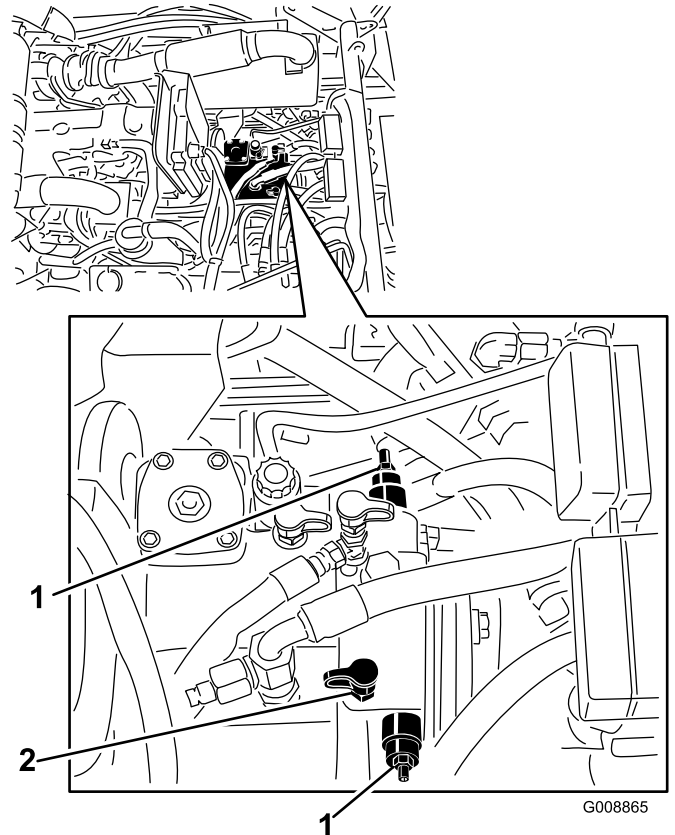
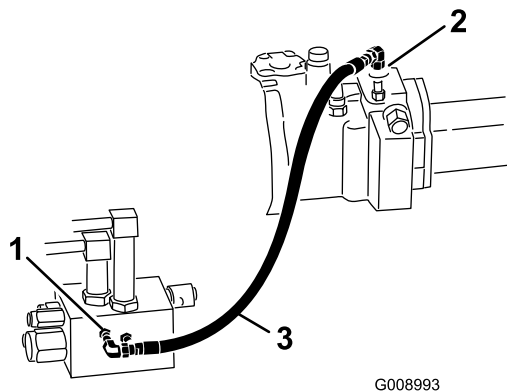

Figure 35
Figure 36
1. Raise the hood and locate the bypass valves on the sides of the pump (Figure 35).
2. To actuate the tow valves, loosen the jam nut on each bypass valve stem (Figure 35).
Important: If the machine must be pushed or towed in reverse, the check valve in the four-wheel drive manifold must also be bypassed. To bypass the check valve, connect a hose assembly (Hose Part No. 95-8843, Coupler Fitting No. 95-0985 [Qty. 2], and Hydraulic Fitting No. 340-77 [Qty. 2]) to the reverse traction pressure test port (Figure 35. and Figure 36). and the reverse four-wheel drive pressure port (Figure 36).